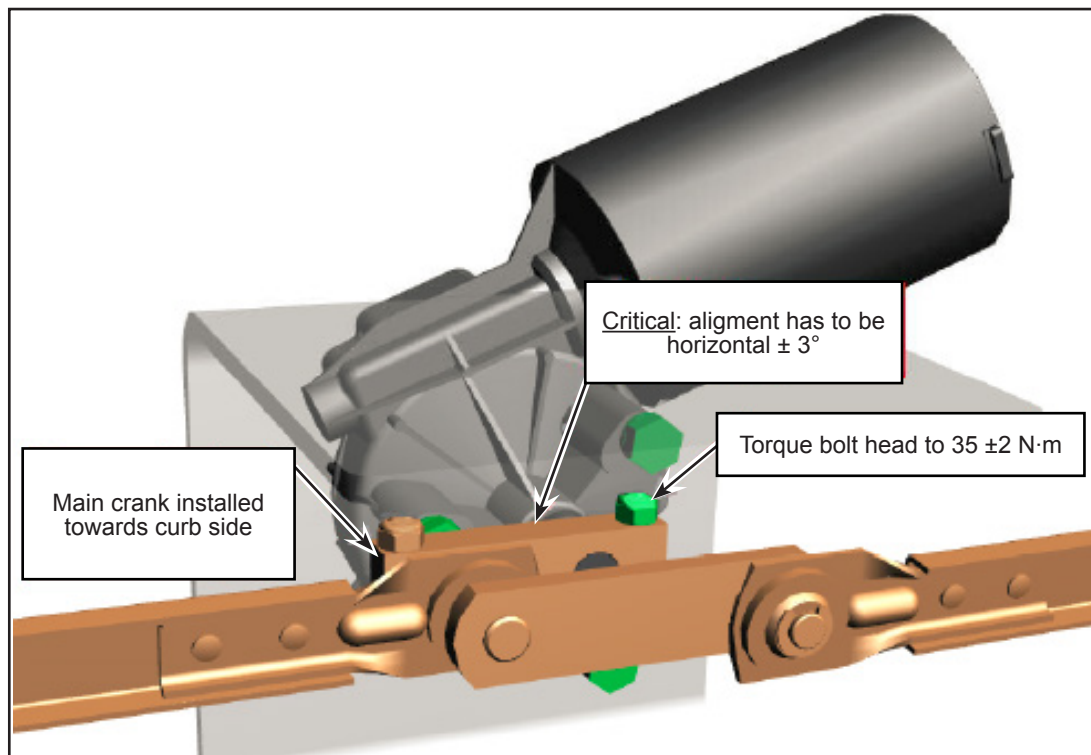

Figure 8 - Install the Main Crank
- 1.15. Slide the main crank onto the motor shaft splines. The main crank must be horizontal $\pm 3^\circ$. Make sure to align the mark made at step 1.9 with the slot on the main crank. See Figure 8. Put the C-clip.
- 1.18. Torque the main crank bolt head on the motor shaft to 35 ± 2 N·m. Apply anti-tamper seal. See Figure 8.